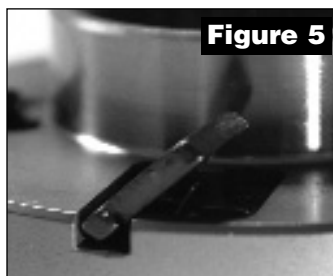
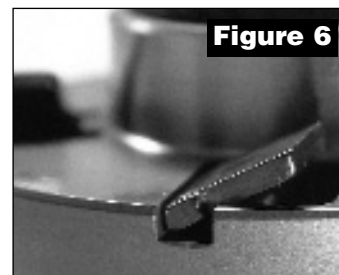

Figure 5
Figure 6
5. The top of the "T" has an angle machined onto it, and it must be oriented to provide a mating surface with the left sidewall of the upper level of the cavity. When the strut is positioned correctly it will look like the one shown in *Figure 5*. *Figure 6* shows improper positioning of the strut.